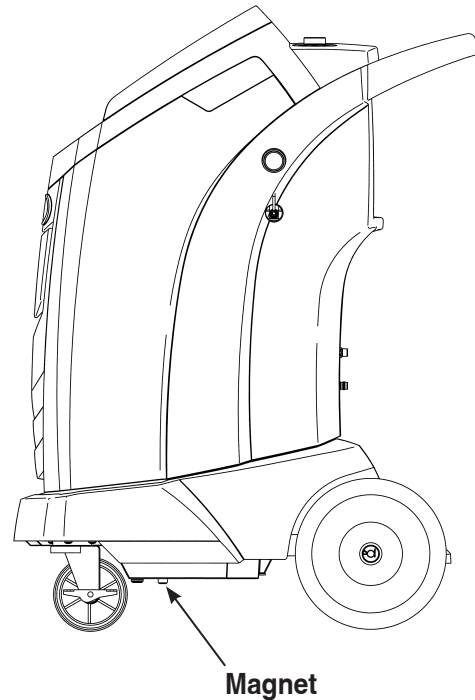

Figure 18
2. Refer to Figure 18, and verify the magnet on the bottom of the machine is clean.